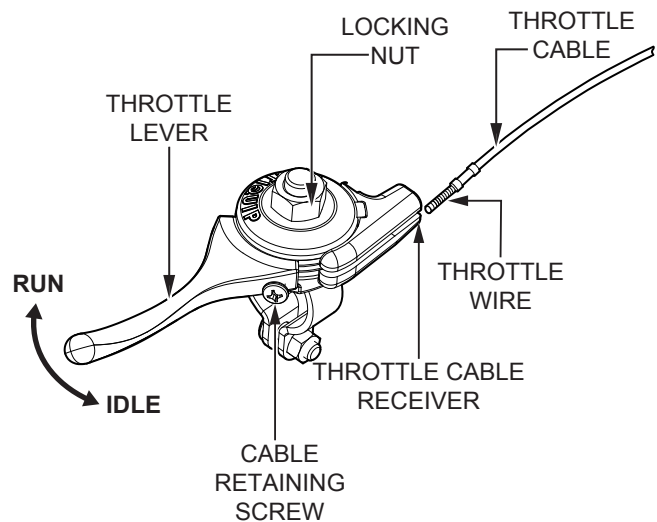

Figure 10. Adjusting Cable Tension
3. Place the throttle lever (Figure 10) in the **RUN** position.
- On the throttle lever, slightly loosen the locking nut and cable retaining screw (Figure 10).
- Make sure the throttle cable is seated in the throttle cable receiver (Figure 10).
- Route the throttle wire approximately 1/2 inch past the cable retaining screw (Figure 10). Tighten the cable retaining screw to secure the throttle wire.
- Adjust cable tension as needed by loosening or tightening the locking nut and cable retaining screw on the throttle lever (Figure 10).